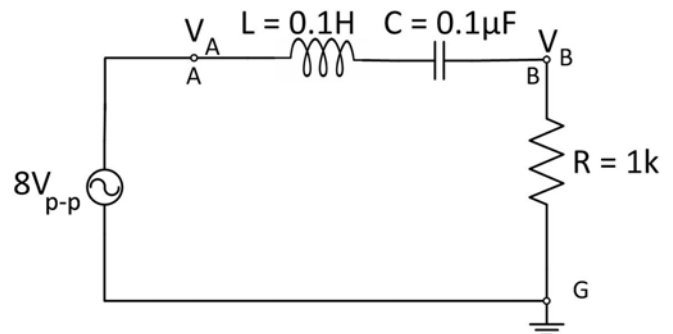

Fig. 3
1. Assemble the circuit as shown in Fig. 3. Apply a sinusoidal input (8 V_{p-p}) to the circuit.